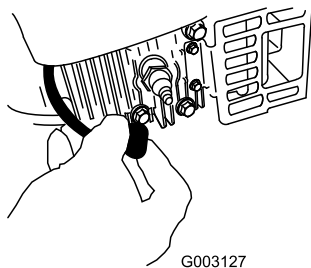

Figure 41
2. Disconnect the spark plug wire from the spark plug (Figure 41) before performing any maintenance procedure.